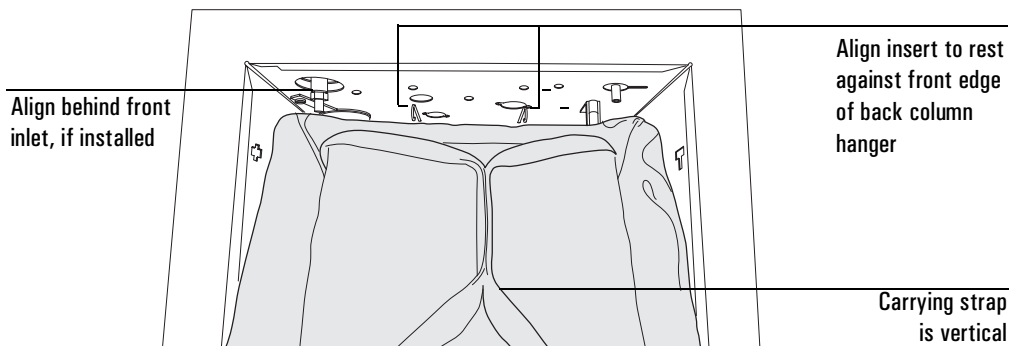

Figure 17 Installing the insert in front of the back column hanger
2. Orient the oven insert as shown in Figure 17 below. Tilt the upper edge away from you and insert it between the column fittings for the front inlet/detector and the back column hanger.